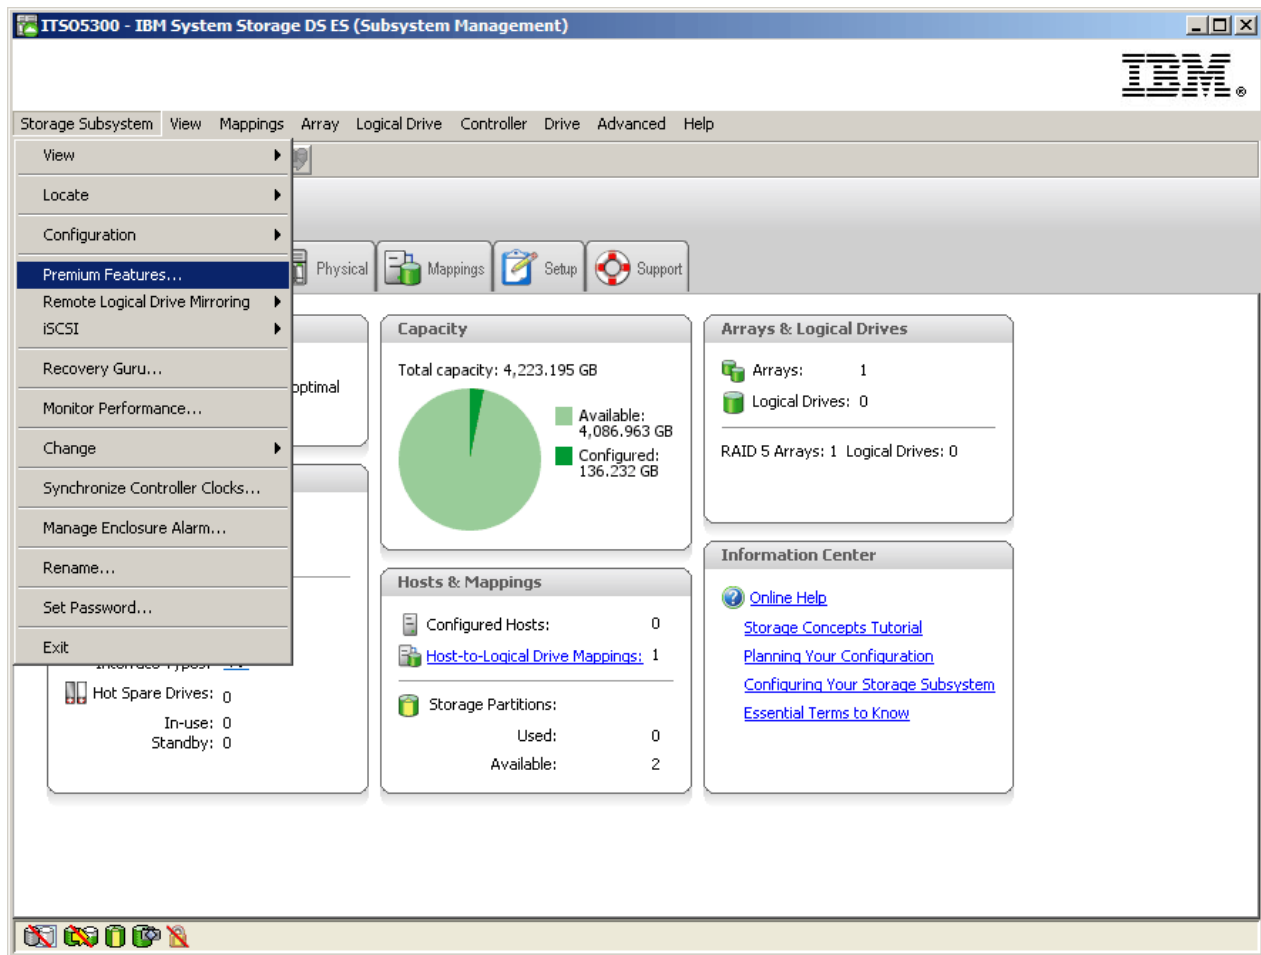

Figure 7-35 Premium Features menu
6. Once you have received the key file, go to Storage Manager and select **Storage Subsystem** → **Premium Features** in the Subsystem Management window, as shown in Figure 7-35.